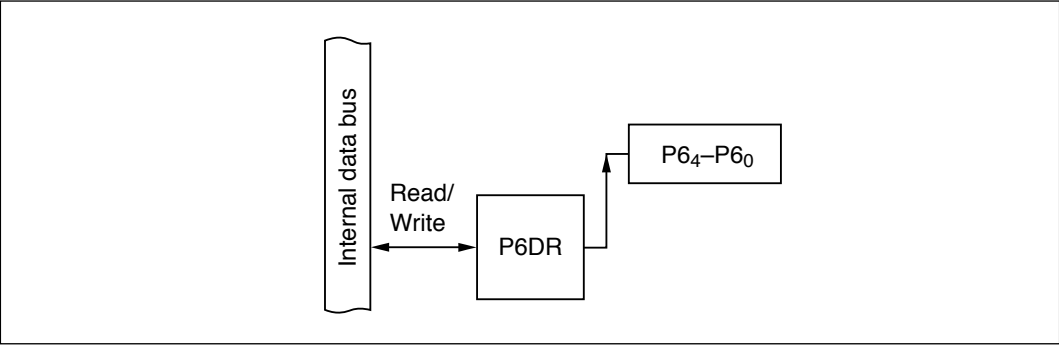

Figure 9-37 Output Port (Modes 1 to 7)
(2) Output Port (Modes 1 to 7): Figure 9-37 shows a block diagram illustrating the general-purpose output function. Table 9-28 indicates register read/write data. The value written in the port 6 data register (P6DR) is output at the pin. When read, P6DR returns the value written in P6DR.